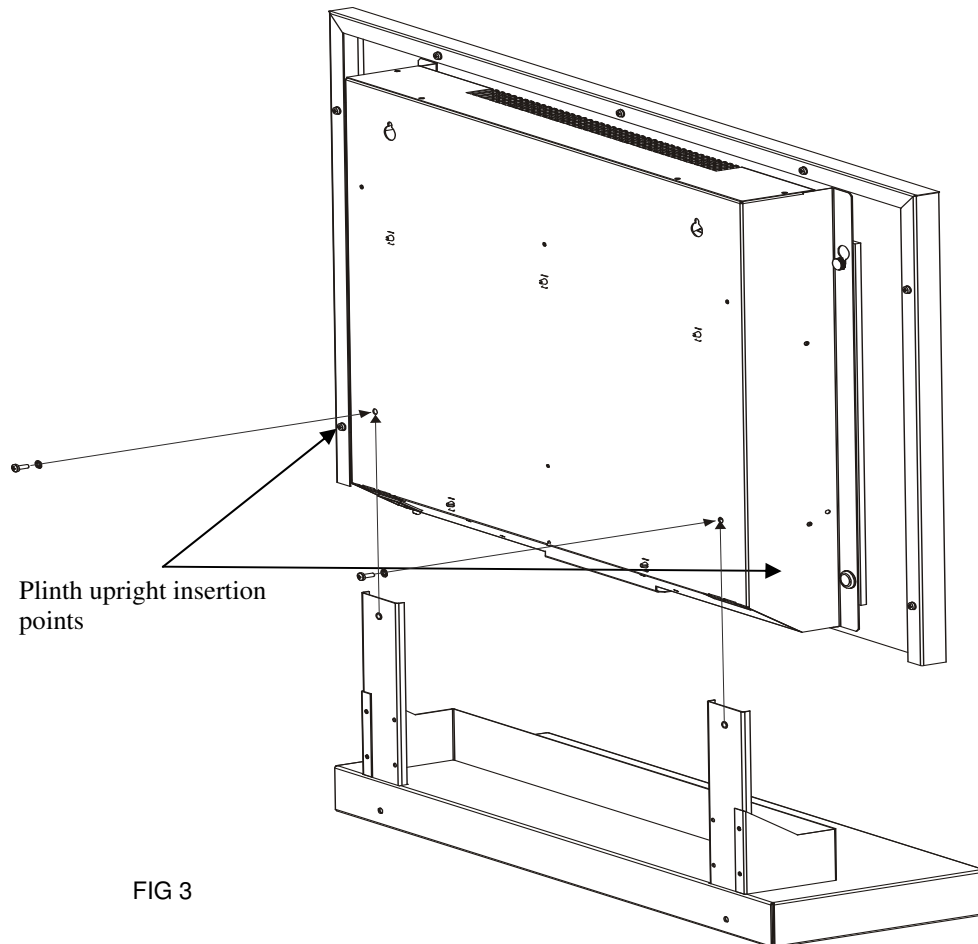

FIG 3
- 2) Slide the fire back over the uprights of the plinth into the back of the fire as shown in Fig 3 until the threads are visible through the holes in the fire back, it may be necessary to adjust slightly to insert the M4 screws provided. Tighten the screws and anti-vibration washers up fully.